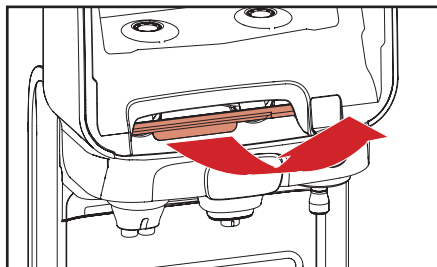

Fig. 5.5 - Pull red release bar
3. Pull the red release bar to open the outlet compartment (fig. 5.5).
- a. Pull the red release bar to open the outlet compartment (fig. 5.5).